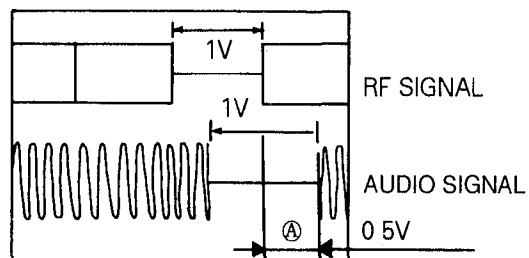

Fig. C-9-1
| Checking Procedure 1) Confirm that the period ④ of Fig. C-9-1 is within $\pm 0.5V$ 2) If the result is abnormal, repeat adjustment #7. (X-Value adjustment). | | | |